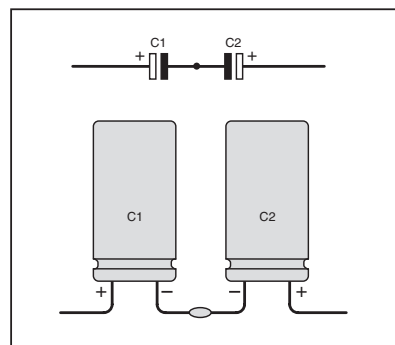

Fig.5. Creating a bipolar electrolytic from two capacitors.
The bipolar electrolytic capacitors used in crossover networks are available in a limited range of values. Capacitors of this kind can be formed by connecting two ordinary electrolytics back-to-back, and this makes possible the production of non-standard values. The details are given in Fig.5. Capacitors rated at 50V working
– see text and Fig.5)